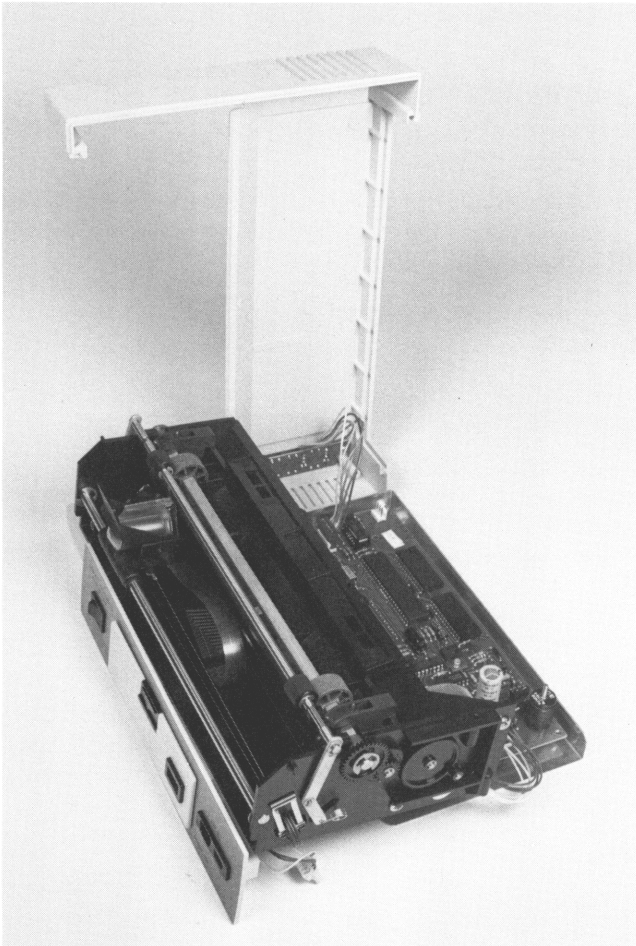

Figure 4-6
1. To access the logic board, remove the mechanism and rear panel. Place the rear panel upside down at the front of the printer and plug the power switch connector into J8 on the logic board. See Figure 4-6.